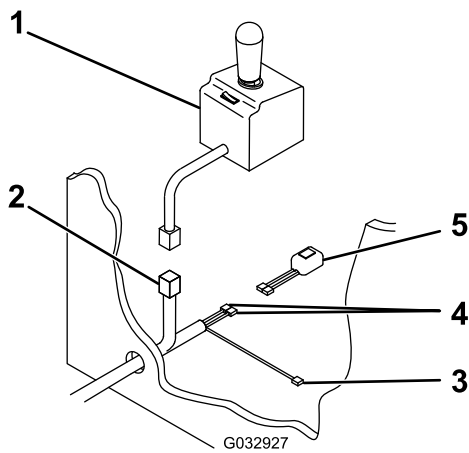

**Figure 20**
5. Connect the pink wire from the long wire harness to the right turn signal wire using a splice connector (Figure 20).
6. Connect the violet wire from the long wire harness to the left turn signal wire using a splice connector (Figure 20).
7. Connect the yellow wire from the long wire harness to the left park light wire using a splice connector (Figure 20).